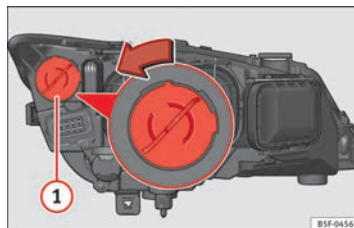

Fig. 186 Day light bulb.
- Turn the bulb holder ⇒ Fig. 186 ① to the left and pull.